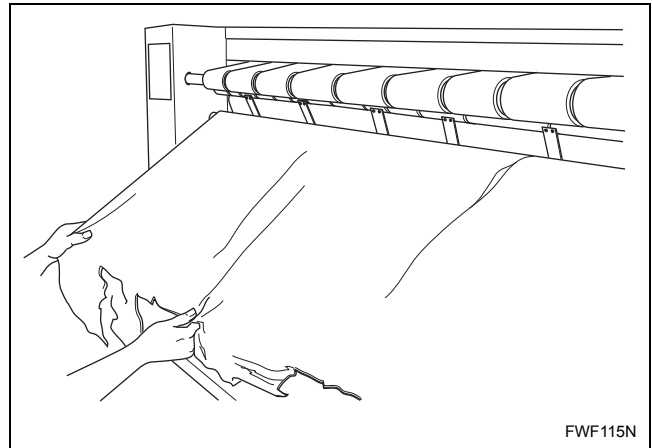

Figure 19
- e. Completely remove protective paper. Refer to *Figure 19*.